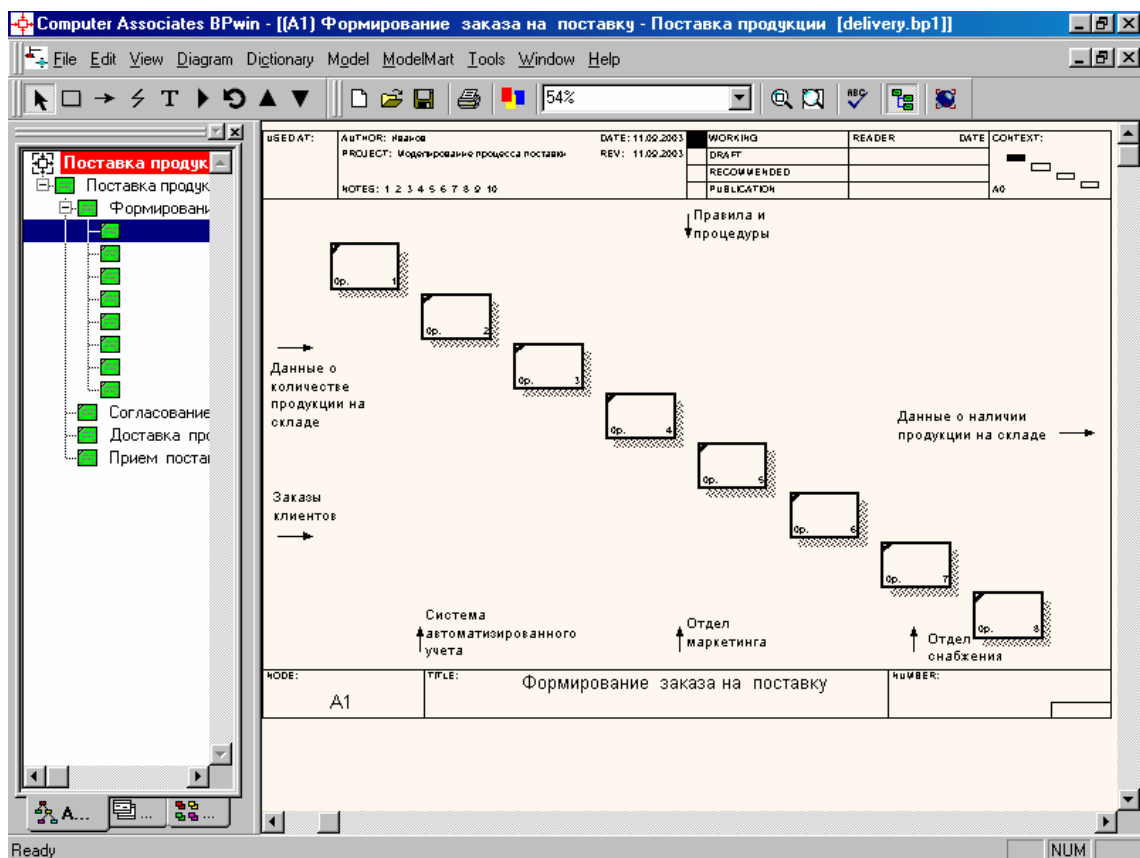

Figure 1.11
3. As a result of decomposition the diagram which kind corresponds to Figure 1.11.